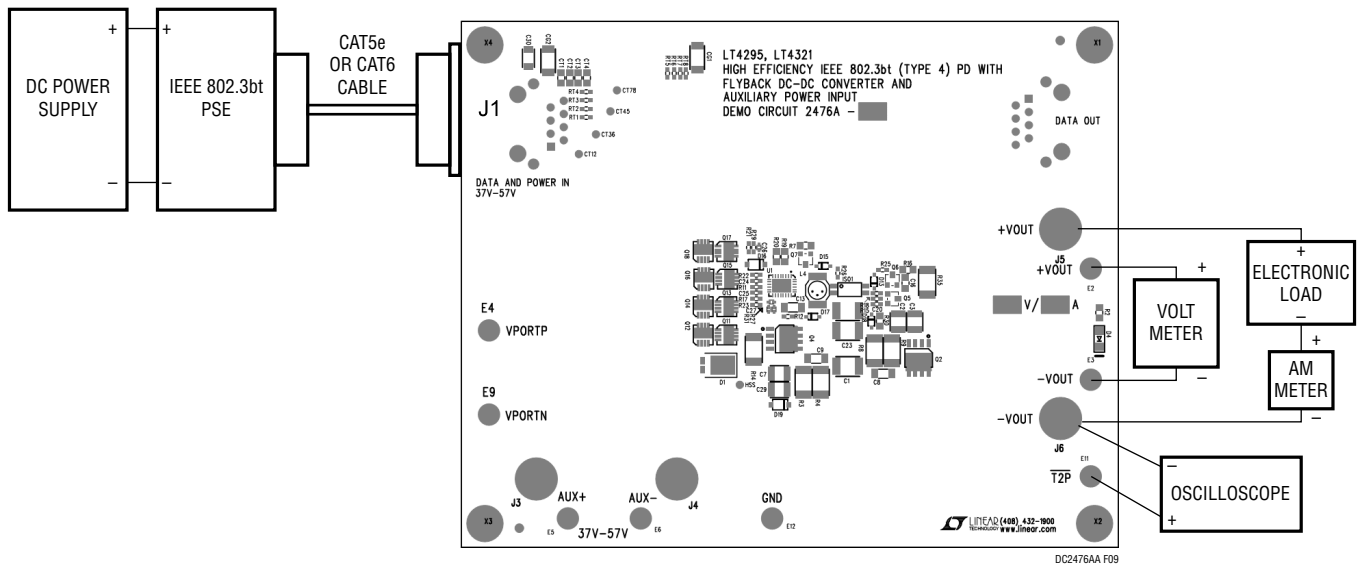

Figure 8. Setup Diagram for PoE Input
2. Place and connect test equipment (voltmeter, ammeter, oscilloscope and electronic load) as shown in Figure 8.
7. Verify $\overline{T2P}$ response with an oscilloscope as shown in Figure 8. The $\overline{T2P}$ response to the type of PSE connected to the DC2476A-A is provided in Table 1.